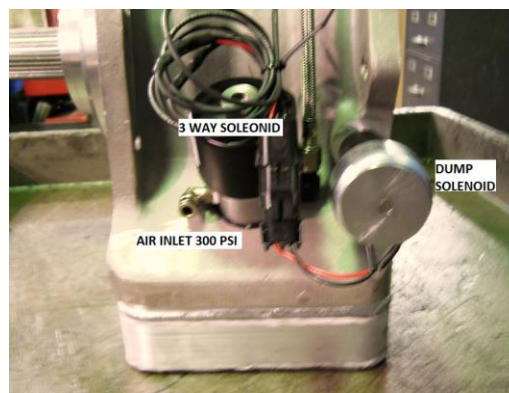

FIGURE 5
- **TRANSMISSION BRAKE PLUMBING:** After the above steps have been completed, you can proceed with the installation of your Quick Lock and transmission. The transmission brake in your Quick Lock was designed to operate with 300 PSI of inlet pressure. Although many race cars may have adequate brake holding capacity with less pressure, reducing this pressure can adversely affect brake release time, and is not recommended. US Transmission has preset 300 PSI regulators available under Part #; QD-57350. All that is needed is to plumb a single line from the regulator outlet to the inlet fitting of the three-way solenoid mounted to the Quick Lock. (See Figure 5, below.) For turbocharger applications when the engine must be brought up to stage RPM and boost levels before entering the stage beam, consult with the Turbocharged Quick Drive Supplement.